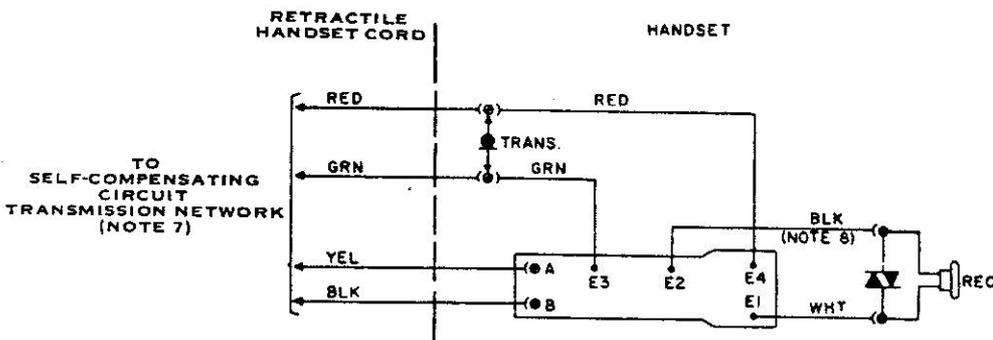

Figure 17. Wiring and Schematic Diagram of Type 820 Handset.
- (d) Connect the Type 820 handset retractile cord leads to the same terminals (color for color) from which the standard retractile handset cord leads were disconnected. These leads are shown in Figure 17.
- (d) Connect the Type 820 handset retractile cord leads to the same terminals (color for color) from which the standard retractile handset cord leads were disconnected. Refer to Figure 17.
- (h) Install the Type 820 handset (equipped with the proper cord for this telephone) to the Type 860A Key Telephone by connecting the cord leads (color for color) to the same terminals from which the standard retractile handset cord leads were disconnected. Refer to Figure 17.
- (d) Install the Type 820 handset (equipped with the proper cord for this telephone) by connecting the cord leads (color for color) to the same terminals from which the standard retractile handset cord leads were disconnected. Refer to Figure 17.